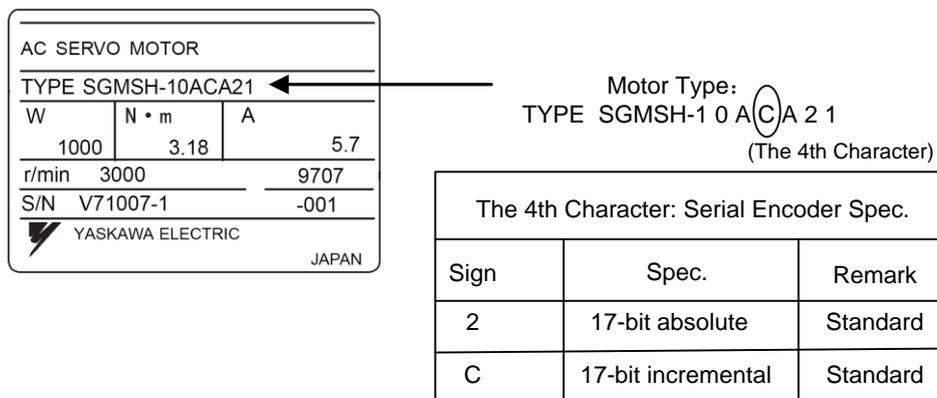

Fig. 3-3 Servo Motor Brand-encoder Resolution
Encoder Resolution (F): needed pulse number for one circle of servo motor. Please see the servo motor label plate and then refer to the corresponding manual to confirm its encoder resolution. A label plate of YASKAWA SGMSH type motor is as shown in Fig. 3-3, and the 4th character in motor type is the serial encoder specification, so the resolution of this motor is 217, i.e. 131072.